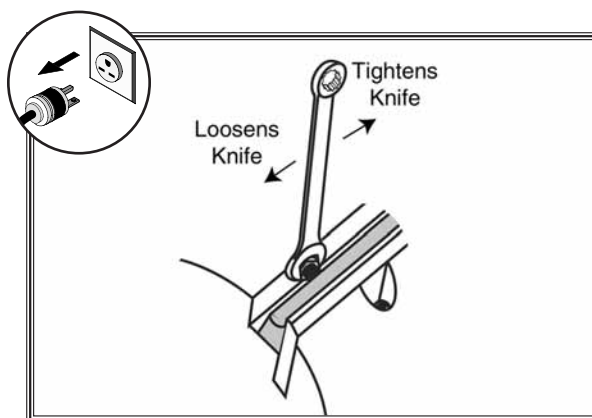

Figure 43. Gib bolt loosening/tightening direction.
5. Loosen the cutterhead gib bolts (see **Figure 43**), starting in the middle, and alternating back and forth until all of the gib bolts are loose, but not falling out.